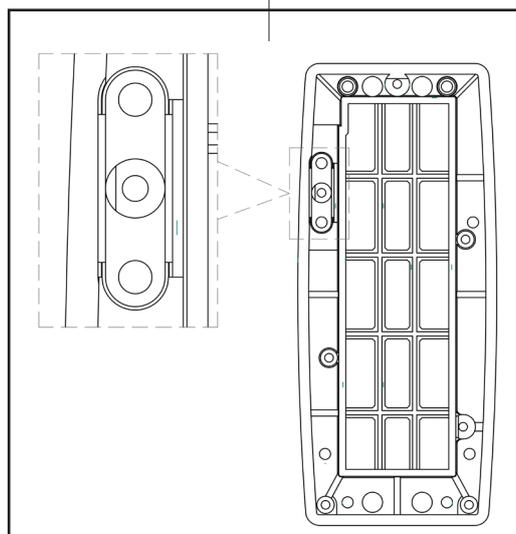

Fig. 4
- Fissare avvitando la vite metrica in acciaio inox (rif. H, v. fig. 4).
- Hook it up to the electronic holder side ant screw up the metric screw (ref. H, see fig. 4).